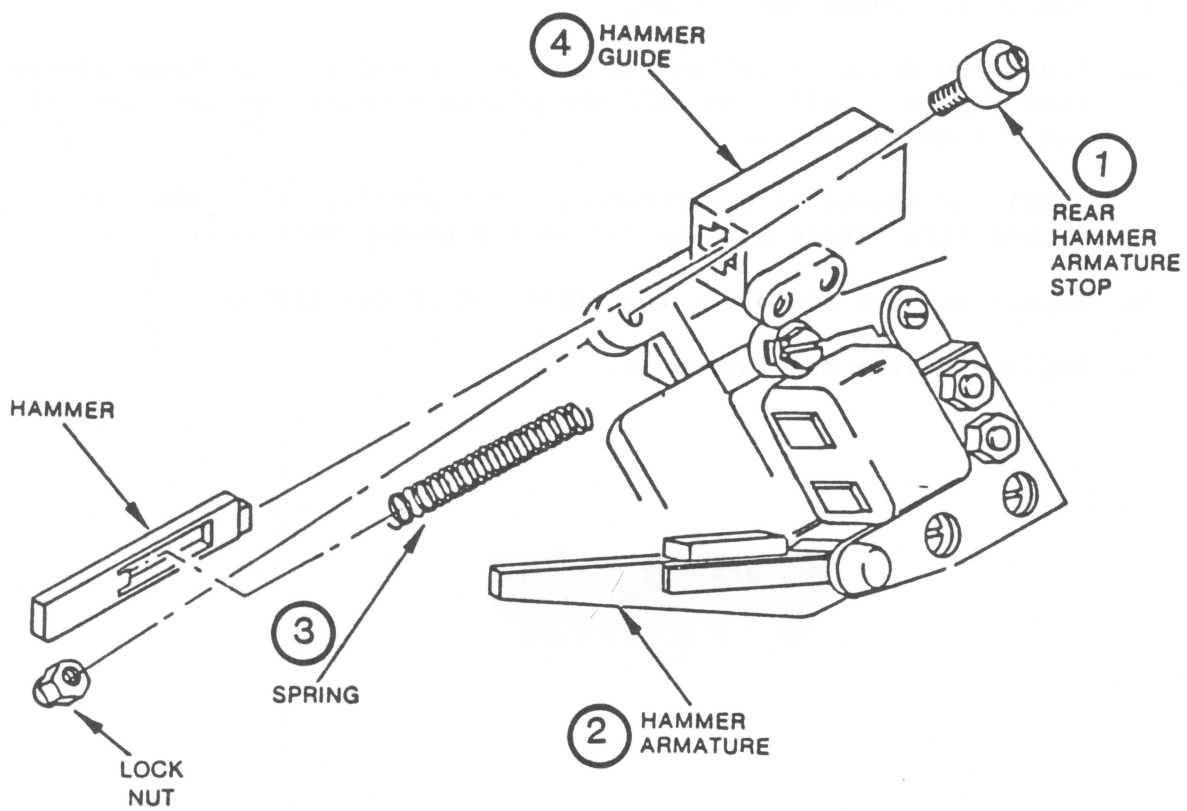

FIGURE 6
2. Remove the rear hammer armature stop (Figure 6, #1) and allow the armature to pivot toward the front of the printer (toward the operator) (see Figure 6, #2).
3. Being careful to hold on to the hammer spring (Figure 6, #3) so it will not be lost, remove the print hammer from the hammer guide (Figure 6, #4) by sliding it out toward the front of the printer. Remove and retain the spring.